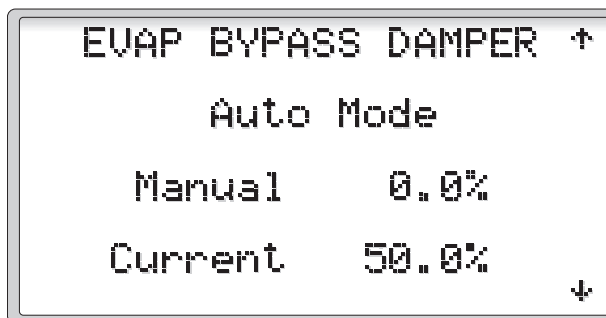

Figure 20
2.2.3.2 Evaporator Bypass Control (Figures 20 and 21)
These two screens allow modification to the evaporator bypass damper actuator PID control loop. Figure 20 allows the control of the damper position to be set to manual control and a manual position to be set. This is used for commissioning and service of the system. The control should not be left in the manual mode during normal operation.